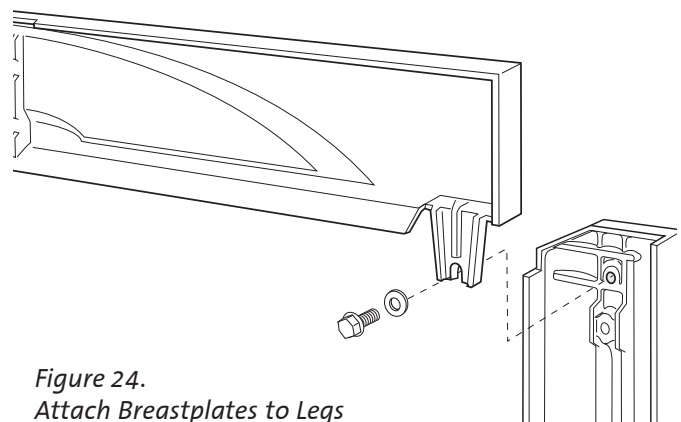

Figure 24. Attach Breastplates to Legs
5. Attach the left and right leg sections to the breastplate assembly using a bolt and washer on each side. See fig. 24.